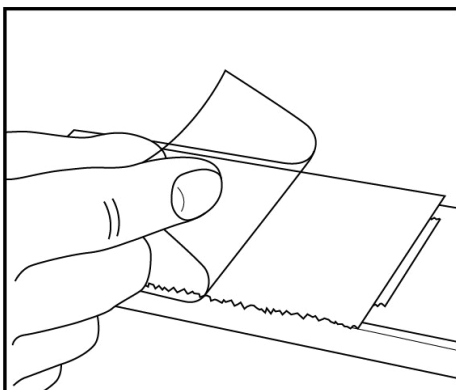

Fig.34
5. Remove the clear protective film from the back of the Velcro (Fig.34). Carefully place the Awnbrella arm back into position, pressing it firmly against the awning fabric.